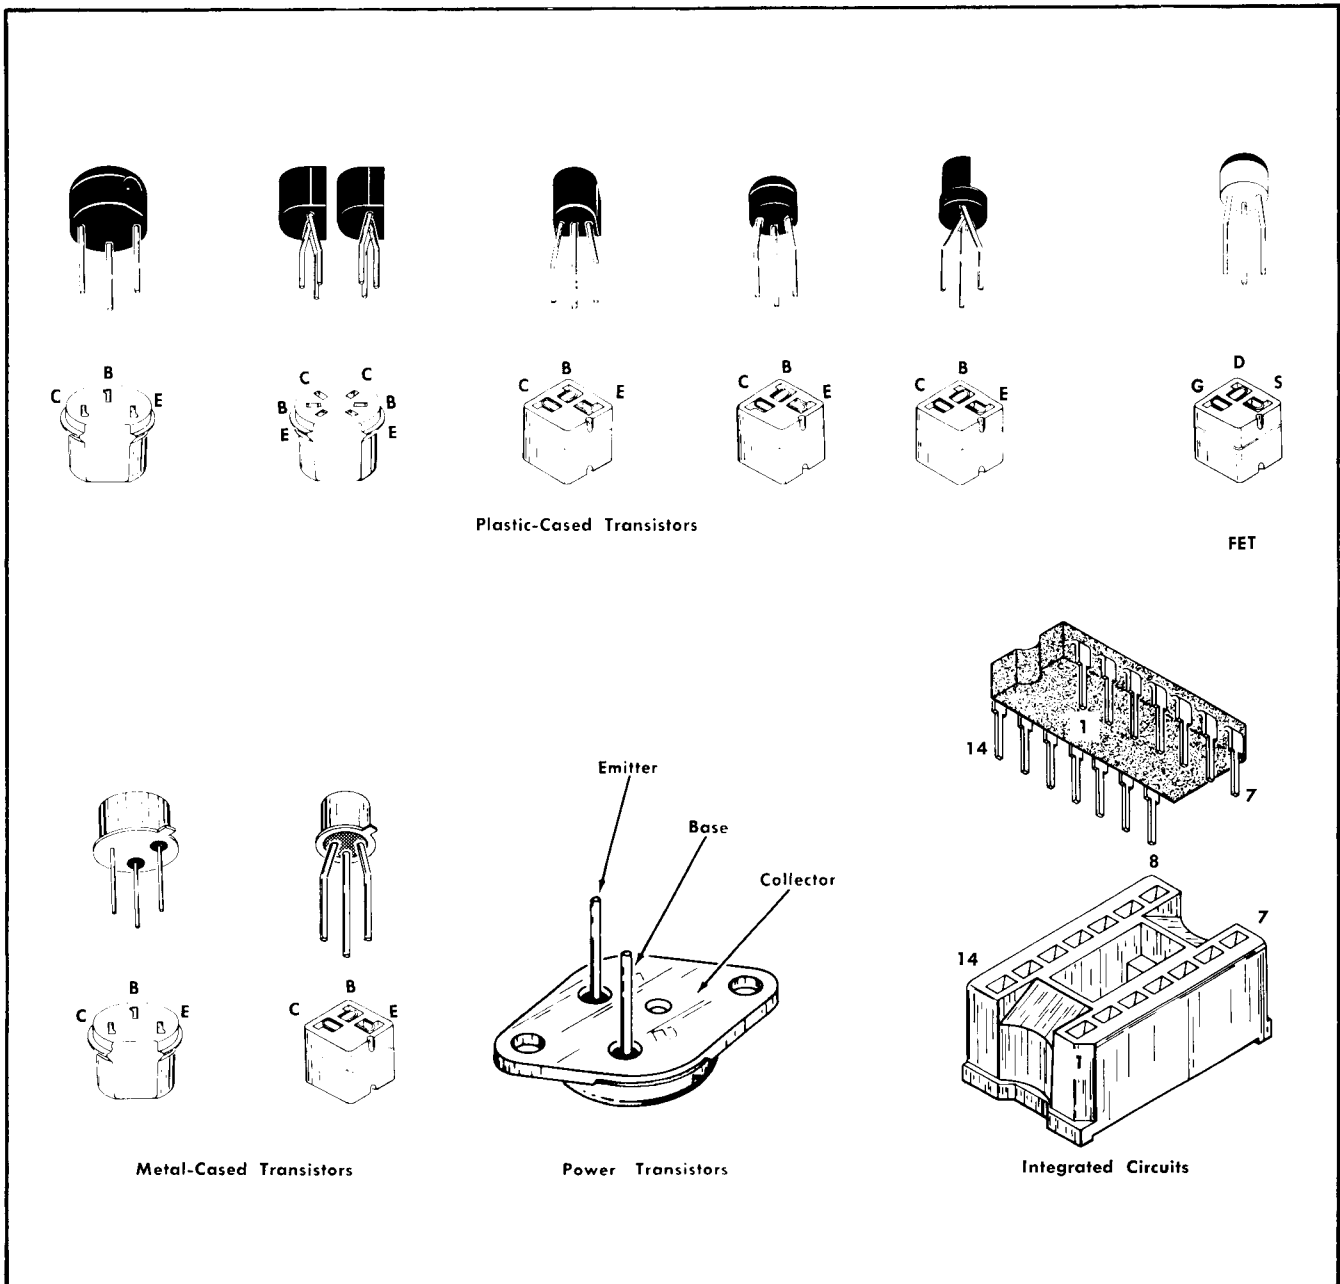

Fig. 4-2. Transistor and integrated circuit electrode configuration data.
A. TRANSISTORS and INTEGRATED CIRCUITS. The best check of transistor and integrated circuit operation is actual performance under operating conditions. If a transistor is suspected of being defective, it can best be checked by substituting a new component or one which has been checked previously. However, be sure that circuit conditions are not such that a replacement transistor might also be damaged. If substitute transistors are not available, use a dynamic tester (such as Tektronix Type 575). Static type testers may be used, but since they do not check operation under simulated operating conditions, some defects may go unnoticed. Fig. 4-2 shows transistor base pin and socket arrangements. Be sure power is off before attempting to remove or replace any transistor or integrated circuit.